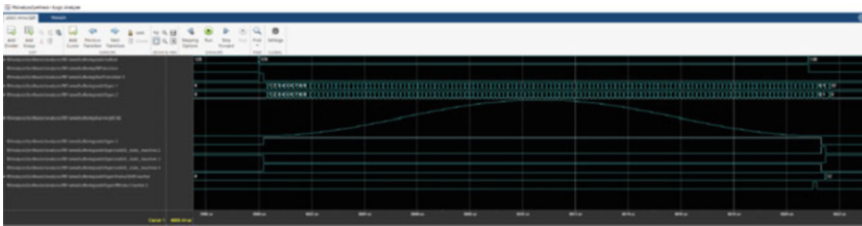

Fig. 3.10: Example Logic Analyzer session
An example of a logic analyzer session is shown in Fig. 3.10 that includes signals inside of the *addrBgen* block and the output of the *hanningROM* block.
- Step 4: Set the *Height* setting to **100**, which was done for the *hanningROM* signal shown in Fig. 3.10, which allows you to see the waveform better.